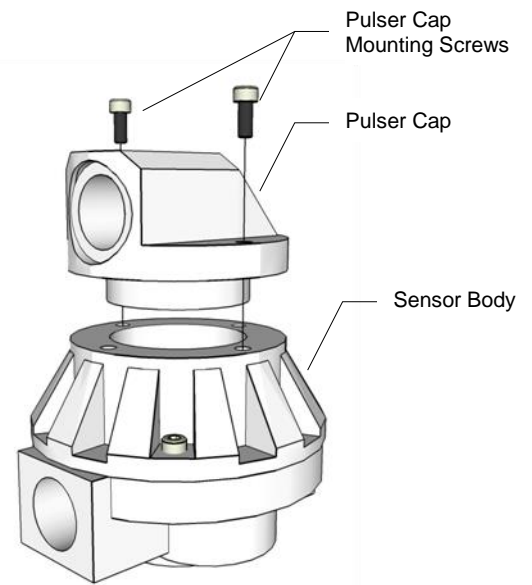

Figure 4 – Pulsar Cap Removal
- (Optional – only if using your own cable, cable gland, or conduit) Remove the pulser cap by removing the pulser cap mounting screws, and install a waterproof cable gland or waterproof conduit to the 1/2" female NPT fitting on the pulser cap. Please refer to Figure 4 on the reverse side for details. Route a six-conductor cable into the sensor cap and connect the conductors to the terminal strip on the printed circuit board mounted underneath the pulser cap. Do **NOT** remove the printed circuit board from the sensor. Replace the pulser cap (which can be replaced in any orientation) and secure with the pulser cap mounting screws.